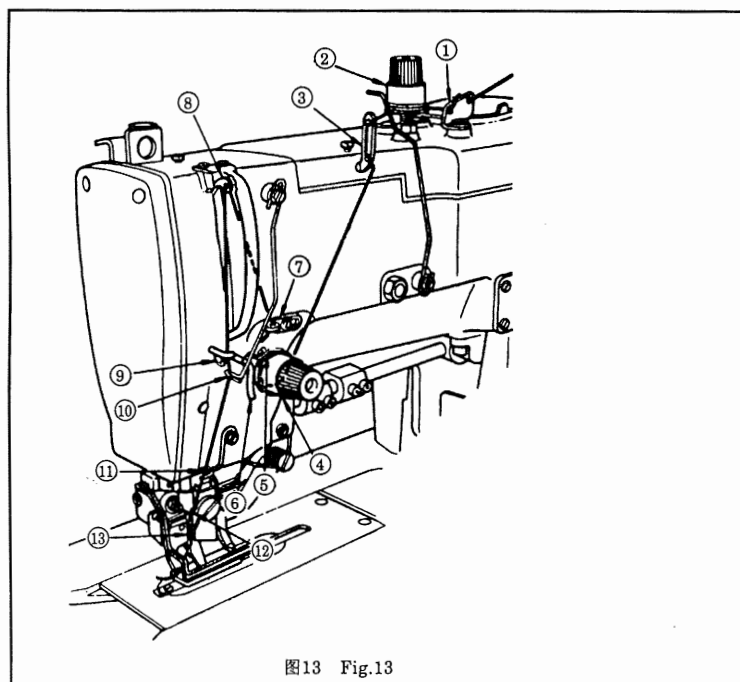

图13 Fig.13
- 2) Passing the thread through thread outlet ① of the bobbin case, pull the thread, and the thread can be drawn out from thread outlet ②, passing under the bobbin winder tension spring.
11. 面线的穿法 图13
11. THREADING THE NEEDLE-THREAD Fig.13